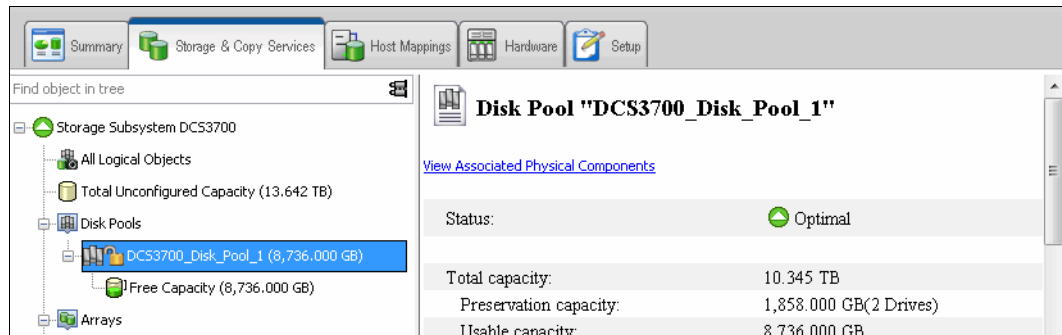

Figure 8-22 Created disk pool
4. Click **Create**, and a new disk pool displays in the Logical pane, as shown in Figure 8-22.